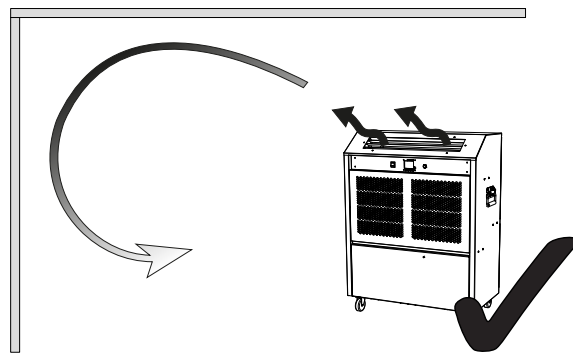

Fig. 5
**Fig. 5:** Ideally, the air should be directed to create a 'blanket' of cold air across the ceiling area allowing natural convection to drop the air over the whole area at very low velocity.